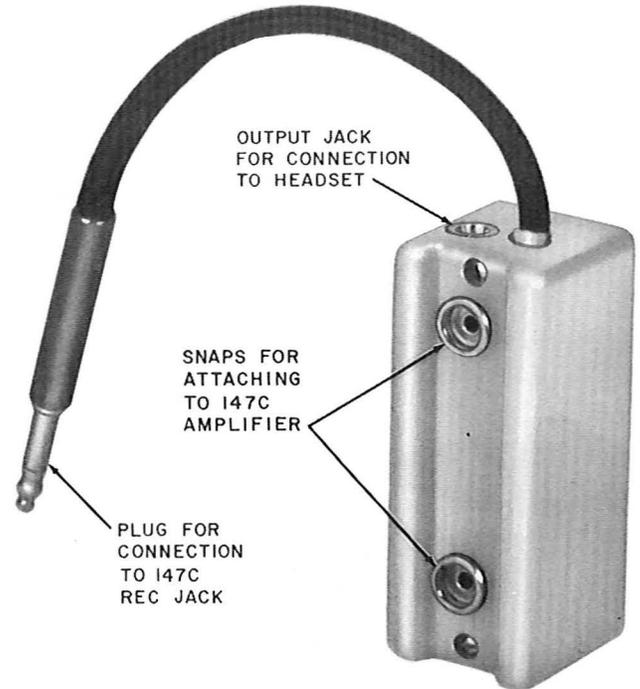

Fig. 1—1097A Filter
1.01 The 1097A filter (Fig. 1) is a narrowband filter designed for use with the 147C amplifier. This permits toning and pair identification where noise or power influence is a problem. The 1097A filter will filter out power line interference and other electrical noise while amplifying the test tone.